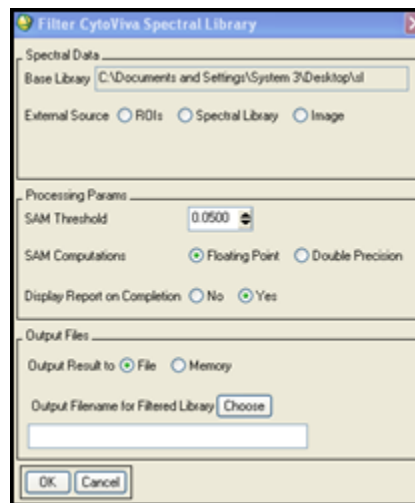

Figure 9.1c: Filter CytoViva Spectral Library Box
- The Filter CytoViva Spectral Library box appears (Figure 9.1c).
- In the Filter CytoViva Spectral Library box (Figure 9.1c), starting at the top the input file name is shown in the Base Library box.